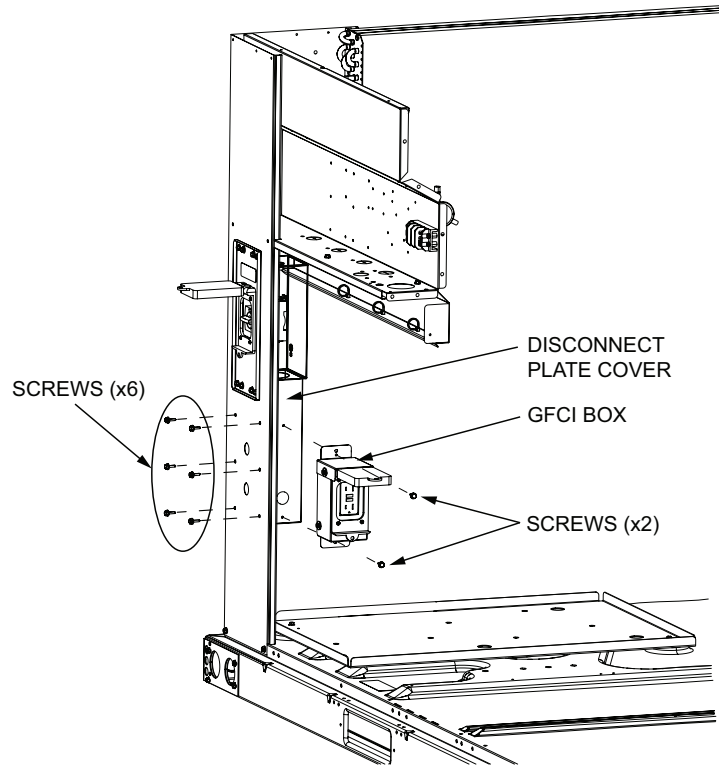

FIGURE 11
- 6 - For ZG/ZC/ZH 092 to 150 units with disconnect, the GFCI will be mounted on the Disconnect Plate Cover as shown in FIGURE 11.